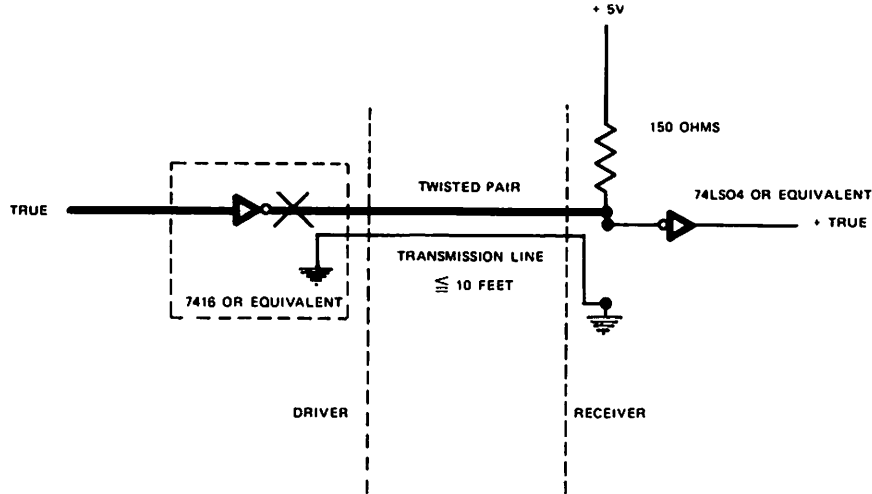

Figure 3-2
All interface signals are TTL compatible. Logic true (low) is + 0.4 V (minimum). Figure 3-2 illustrates the interface configuration. The maximum interface cable length is ten (10) feet.